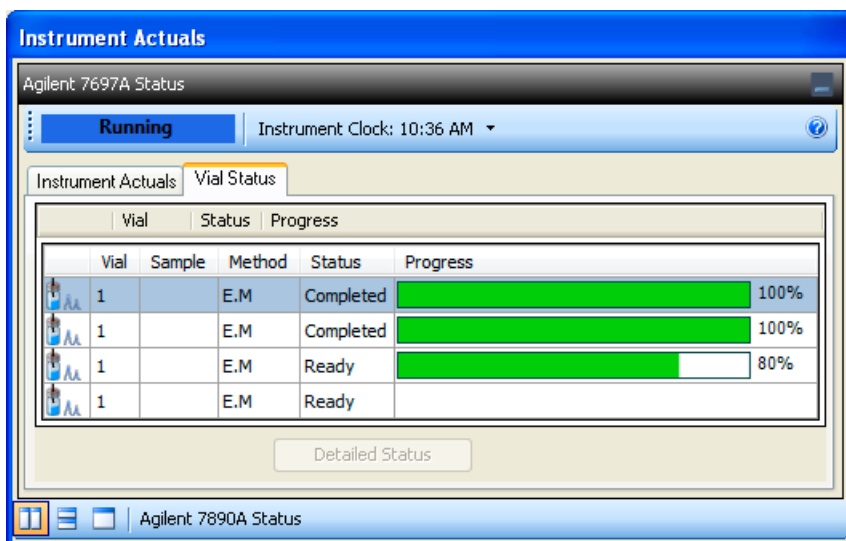

**Figure 28** The Agilent 7697A Status > Vial Status panel
- To view the **Agilent 7697A Status > Vial Status** panel, select the **Vial Status** tab (Figure 28).